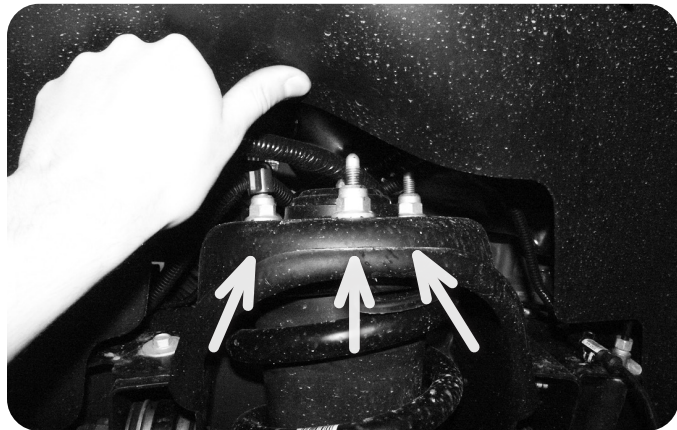

Figure 5
14. Remove the three upper strut mounting nuts **Figure 5** and remove the strut from the vehicle. **DO NOT** remove the center strut rod nut, it is under extreme pressure. Save nuts.